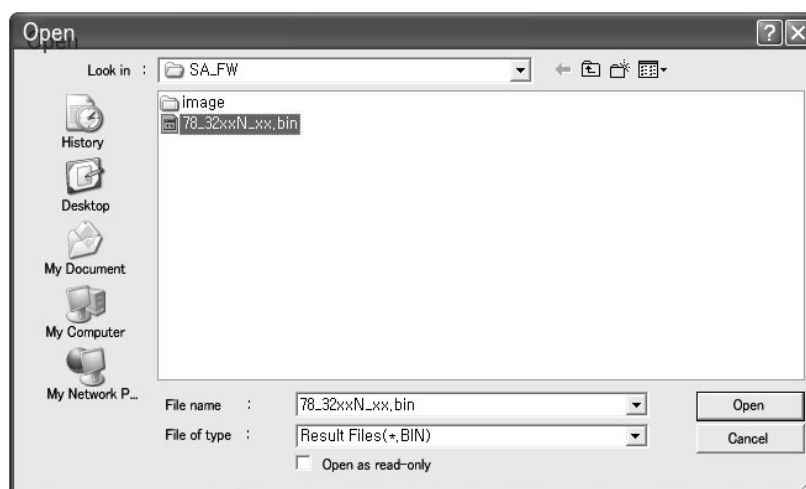

Figure 6.3. The window to select source file
- 7) After pressing the button of “Select” , the window to select the source file will be activity as like Figure 6.3.